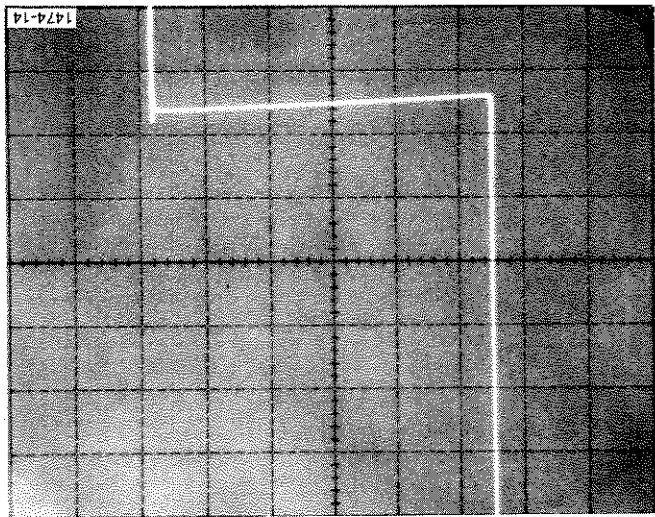

Fig. 2-13. Illustration of typical offset voltage measurement.
**Op Amp Offset Voltage.** The display can now be used to measure offset voltage. Increase the vertical sensitivity (turn the VERT UNITS/DIV control clockwise until the largest on-screen vertical deflection is obtained). Offset is measured on the vertical axis where the output voltage passes through zero (see Fig. 2-13). The vertical deflection is the differential voltage between the operational amplifier input terminals.